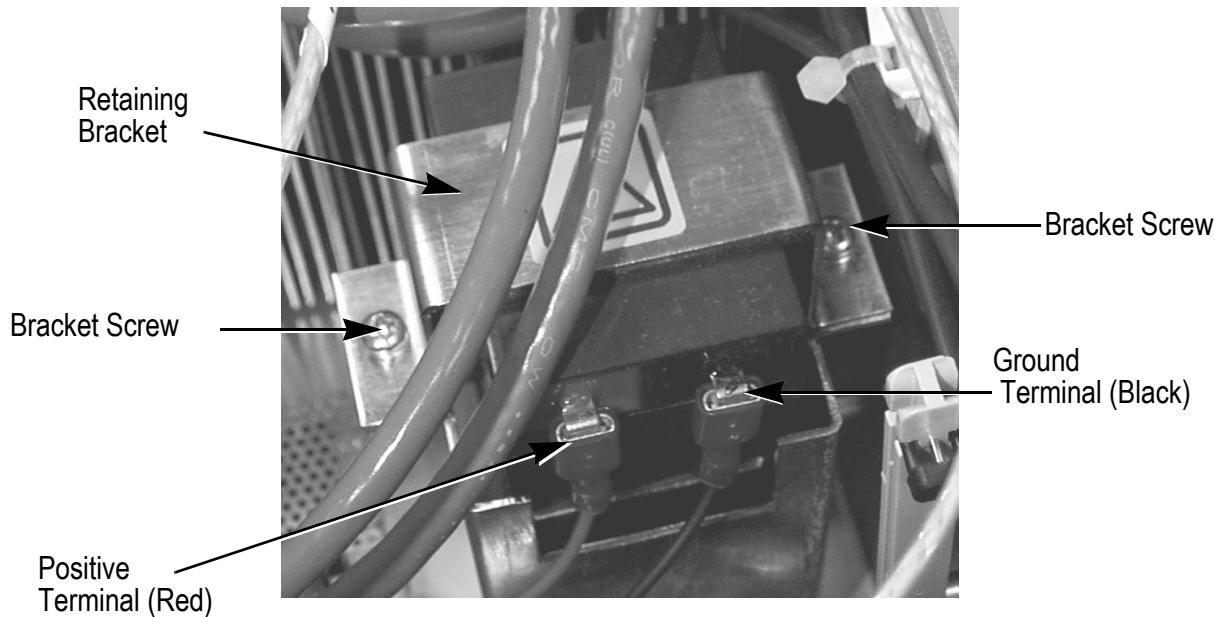

Figure 7-1. Power Supply Backup Battery
1. Using an Allen wrench, remove the top cover of the power supply. The Verdi backup battery is located toward the right-front corner of the Verdi power supply (with respect to the power supply front panel display). See Figure 7-1.